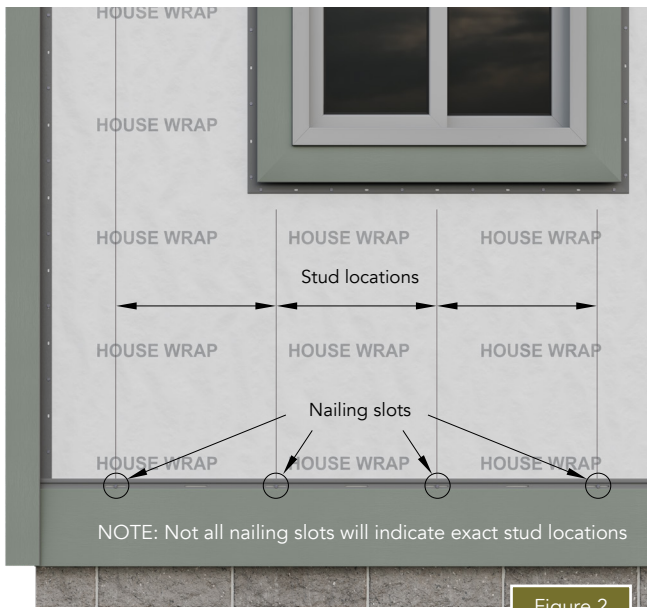

Figure 2
- Prior to installation, mark stud locations to facilitate installation. Nailing slots are provided every 8" on-center to assist in stud location (Figure 2).
- Measure and chalk a level line 3½" up from the lowest point of the wall (Figure 2).